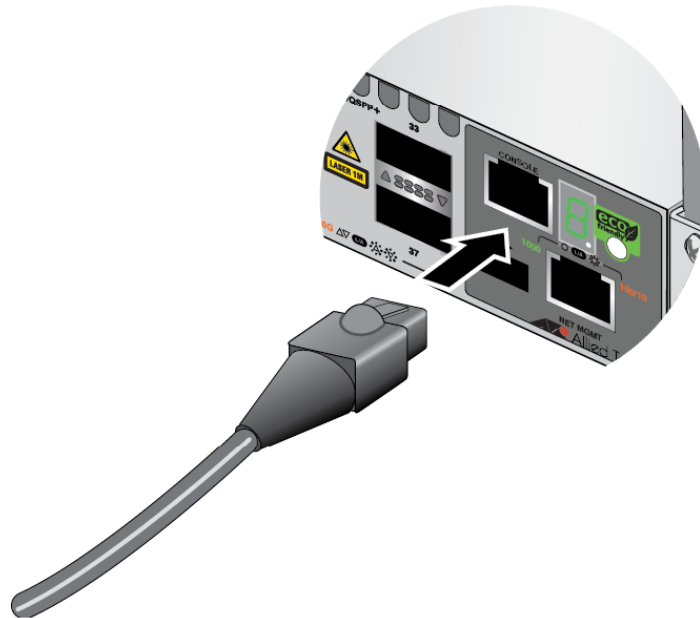

Figure 106. Connecting the Management Cable to the Console RS-232 Port
1. Connect the RJ-45 end of the management card included with the switch to the Console RS-232 port on the management panel. Refer to Figure 106.